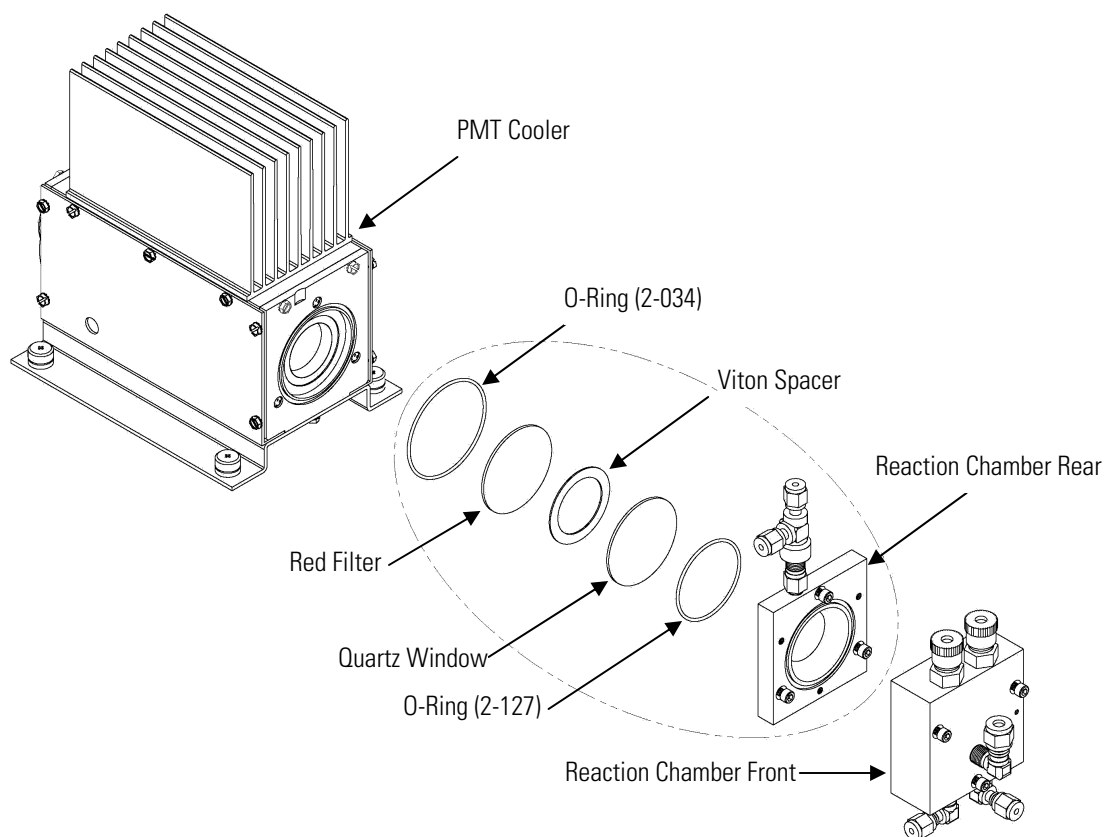

Figure 7–10. Cleaning or Removing the Reaction Chamber
3. Remove the three socket head screws fastening front of reaction chamber to rear (Figure 7–10). This exposes the inner surfaces of both sections of the reaction chamber and the quartz window. To clean these surfaces use cotton swabs and methanol.